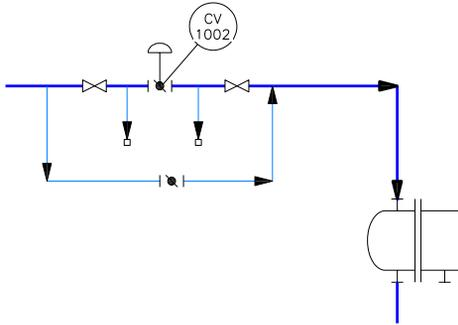

Figure 2-65 Secondary lines with plugs placed at their endpoints
- Next, create two secondary lines connecting the steam inlet pipe, as shown in Figure 2-65.
- Choose **Plug** from the **Piping Fittings** area in the **Fittings** tab of the **TOOL PALETTES - P&ID PIP**, and then place it at the endpoints of the secondary lines, refer to Figure 2-65.